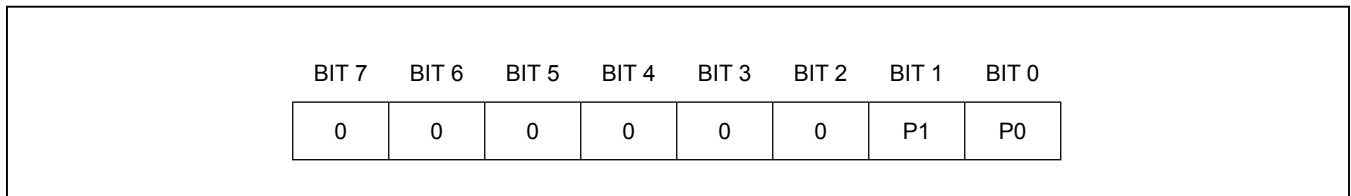

Figure 8. Pointer Byte
**Pointer Byte:** The pointer byte is used by the master to tell the DS75LV which register is going to be accessed during communication. The six MSbs of the pointer byte (see Figure 8) are always 0 and the two LSbs correspond to the desired register as shown in Table 5.